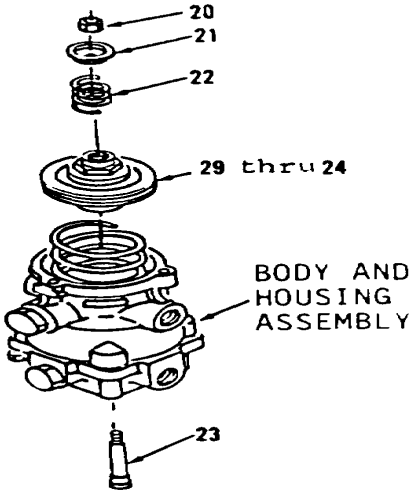

Figure 6-35.
- 12. Install items 29 thru 24 as an assembly (Figure 6-35) into body and housing assembly.
- 13. Install stem (23), spring (22), retainer (21) and nut (20).